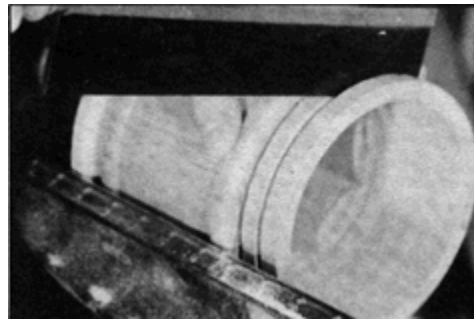

Figure 13
40. Use the dovetail saw to remove the two rings (see **Figure 13**).